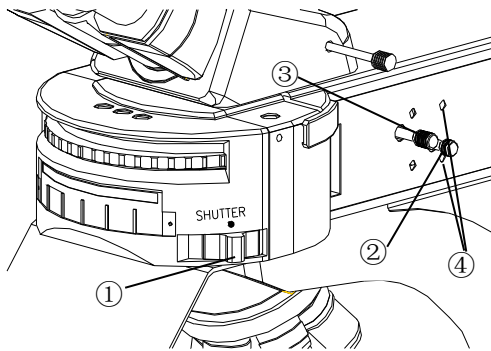

Fig.3
3.2.6 Centering the Aperture Iris Diaphragm (Fig.3)
Adjusting the aperture iris diaphragm (Fig.3)